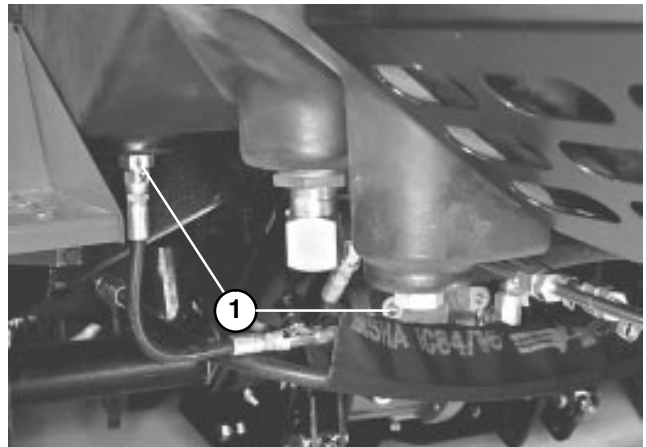

Figure 34
CHANGING HYDRAULIC OIL (Fig. 34 & 35)
2. Remove drain plug from rear of reservoir and hydraulic line from front of reservoir (Fig. 34) and let hydraulic oil flow into drain pan. Reinstall and tighten plug and line when hydraulic oil stops draining.